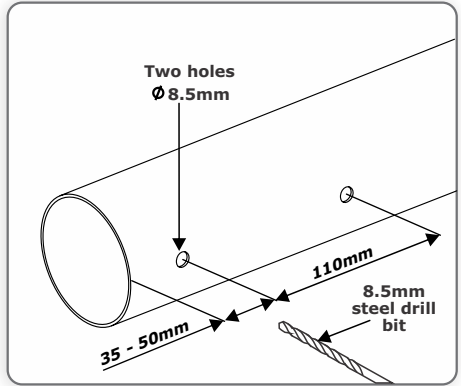

FIGURE 6
3. On the inner pole (pole that is mounted onto the barrier housing), mark two holes, following the measurements as shown in Figure 6.